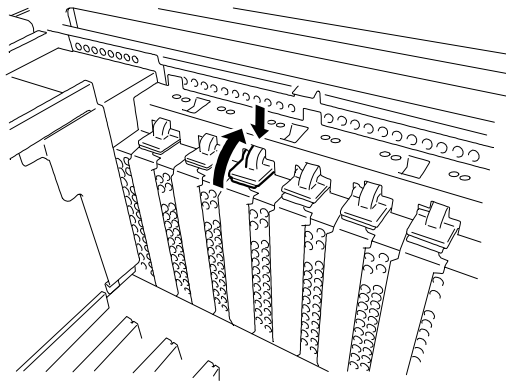

Figure 4-39. Releasing the Expansion Slot Cover
8. Determine the expansion slot cover that corresponds to the desired expansion slot. Release the cover lock by pressing on its cover tab, see Figure 4-39.
3. Determine the option board slot cover that corresponds to desired expansion slot and release the cover lock by pressing on its tab, see Figure 4-39.